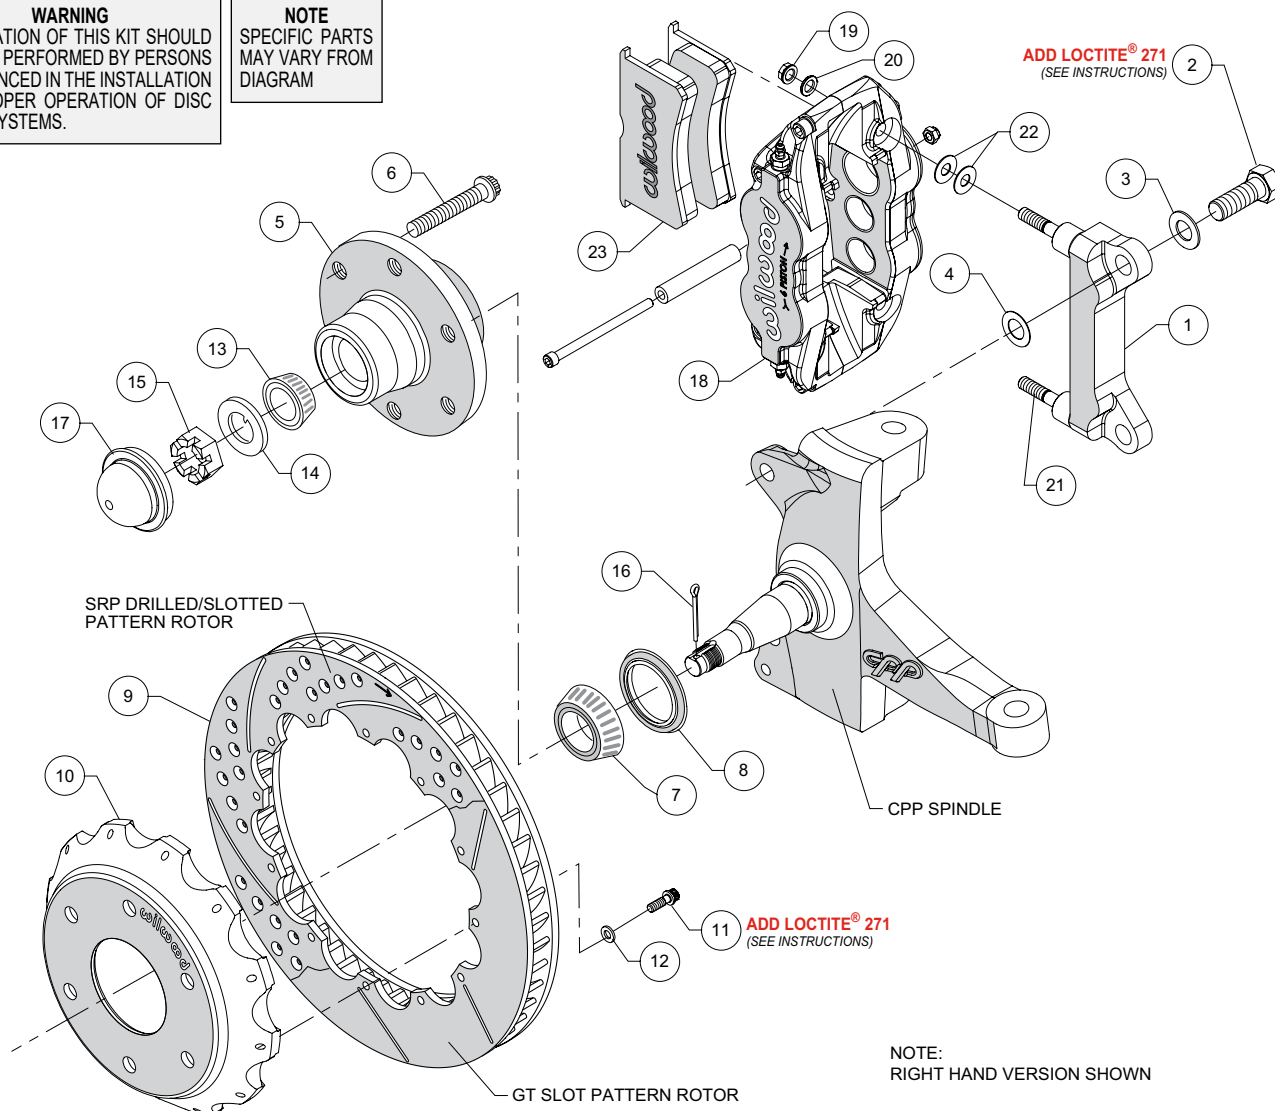
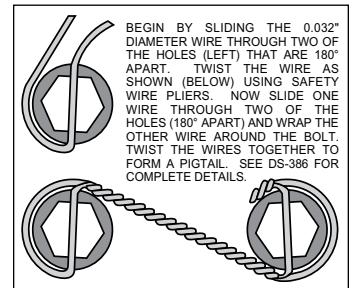

Figure 1. Typical Installation Configuration
Figure 3. Safety Wire Diagram
NOTE: Numbers in parenthesis refer to the parts list and Figure 1 on the preceding pages.
- The caliper mount bracket (1) should initially be installed with clean, dry threads on the mounting bolts. Orient the bracket, as shown in Figure 1, and Photo 1, and install using bolt (2) and washer (3). Initially place one .024" thick shim (4) on each bolt between the bracket and upright, Figure 1. Temporarily tighten the mounting bolts. **NOTE: The bracket must fit squarely against the mount bosses on the upright.** Inspect for interference from casting irregularities, machining ridges, burrs, etc. Later, after the caliper alignment has been checked, the mount bolts will be secured using red *Loctite*® 271.
- Install wheel studs (6) into the hub (5), Photo 2. Torque to 77 ft-lb.
- Pack the large inner bearing cone (7) with high temperature disc brake bearing grease (available from your local auto parts store) and install into the backside of the hub (5), Photo 3.
- Install the grease seal (8) by pressing into the backside of the hub (5), flush with the end of the hub, Photo 4.
- Orient the rotor (9) and the hat (10) as shown in Figure 1 and Photo 5. Attach rotor to hat using bolts (11) and washers (12). Apply red *Loctite*® 271 to the bolt threads and torque to 155 **in-lb** using a criss-cross pattern. and torque to 155 **in-lbs**. For an added measure of security, the bolts may be safety wired using standard 0.032 inch diameter stainless steel safety wire as shown in Figure 3. Refer to Wilwood's data sheet DS-386 (available at www.wilwood.com/Pdf/DataSheets/ds386.pdf) for complete safety wire installation instructions.
- Pack the small outer bearing cone (13) with high temperature disc brake bearing grease and install into hub (5). Slide the hub assembly onto the spindle. Secure using spindle washer (14) and spindle nut (15), Photo 6. Adjust bearings per OEM specifications. Install a new cotter pin (16).
- Press the dust cap (17) into the hub (5). **NOTE: Do not hammer center of cap. Install using outer flange only.**
•Slide the hat/rotor assembly (10/9) onto the hub (5), Photo 7. **NOTE:** The hat must fit flush against the hub face or excessive rotor run out may result. Install three lug nuts (finger tight) to keep the hat/rotor assembly in place while continuing with the installation.
•**NOTE:** This kit contains distinct right and left hand calipers that must be mounted in a specific direction, as described below. Initially place two .035" thick shims (22) on each stud (21) as shown in Figure 1 and Photo 8. Mount the caliper (18) onto the bracket (1) using lock nuts (19) and washers (20), Figure 1. Ensure that the caliper is mounted so that the largest pistons are at the rotor exit end of the caliper, in relation to the direction of rotor rotation. Temporarily tighten the lock nuts and view the rotor through the top opening of the caliper. The rotor should be centered in the caliper, Photo 9. If not, adjust by adding or subtracting shims (4) between the bracket and the upright. Always use the same amount of shims on each of the two mounting bolts. Once the caliper alignment is correct, remove the bracket mounting bolts (2) one at a time, apply red *Loctite*® 271 to the threads, and torque to 140 ft-lbs.
•Remove the caliper center bridge pad retainer bolt, nut, and tube from the caliper. Insert the brake pads (23) into the caliper, with the friction material facing the rotor, as shown in Photo 10. Check that the top of the brake pad is flush with the outside diameter of the rotor, Photo 11. If not, adjust by adding or subtracting shims (22) between the caliper and the bracket. After the caliper pad height is set, torque the caliper lock nuts (19) to 30 ft-lb. Secure the brake pads in place with the center bridge pad retainer tube, bolt, and locknut, Photo 12. The locknut should be snug without play in the bolt or tube. Be cautious not to over tighten.